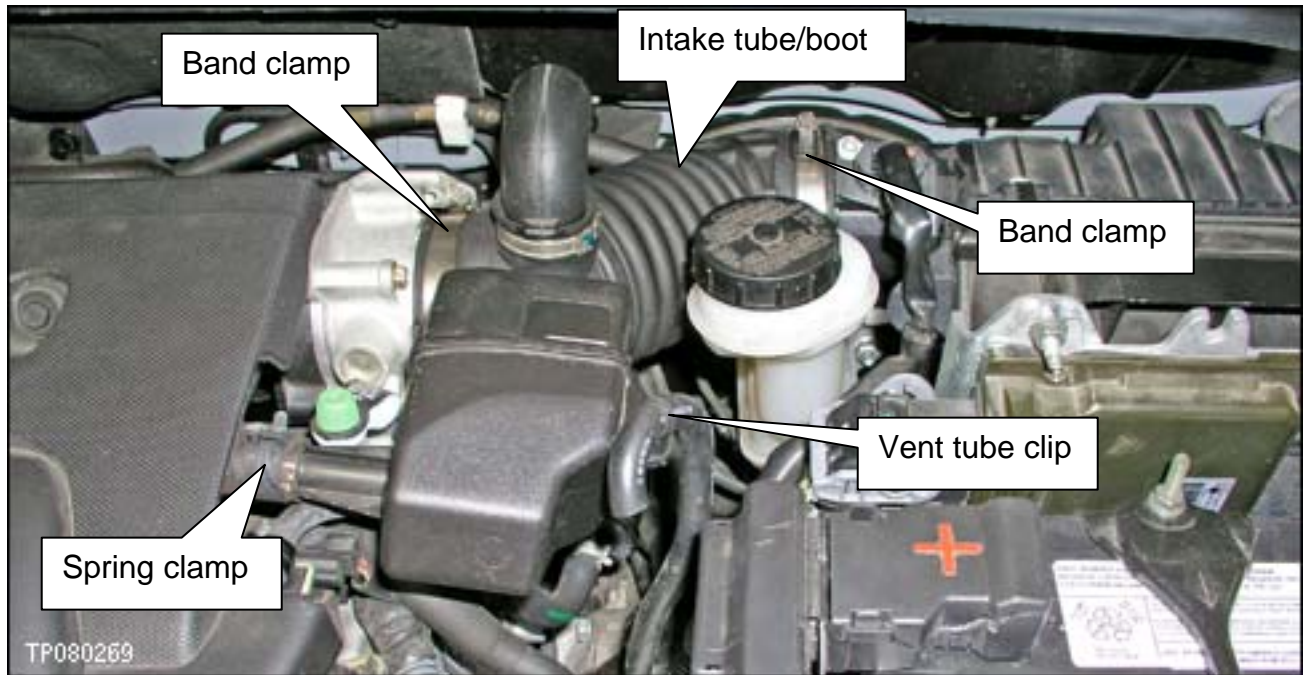

Figure 26
27. Install the air intake tube/boot between the air cleaner assembly and intake manifold (see Figure 26).